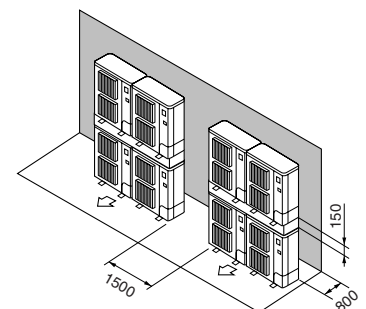

Fig. 3-17
- ⑦ Stacked unit arrangement (Fig. 3-17)